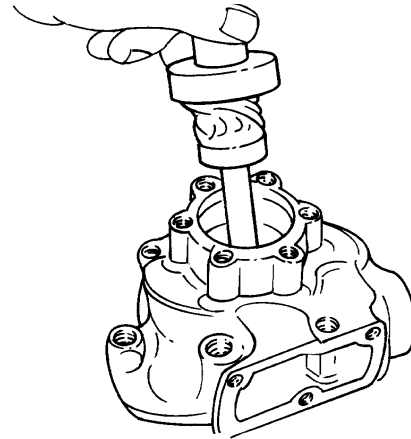

Figure 90 - Coolant Pump Shaft - Installation
- c. Pack the small bearing (Fig 79(3)), the large bearing (Fig 79(2)) and the space between the bearings with grease (XG-274) and insert the coolant pump shaft into the housing (Fig 90).